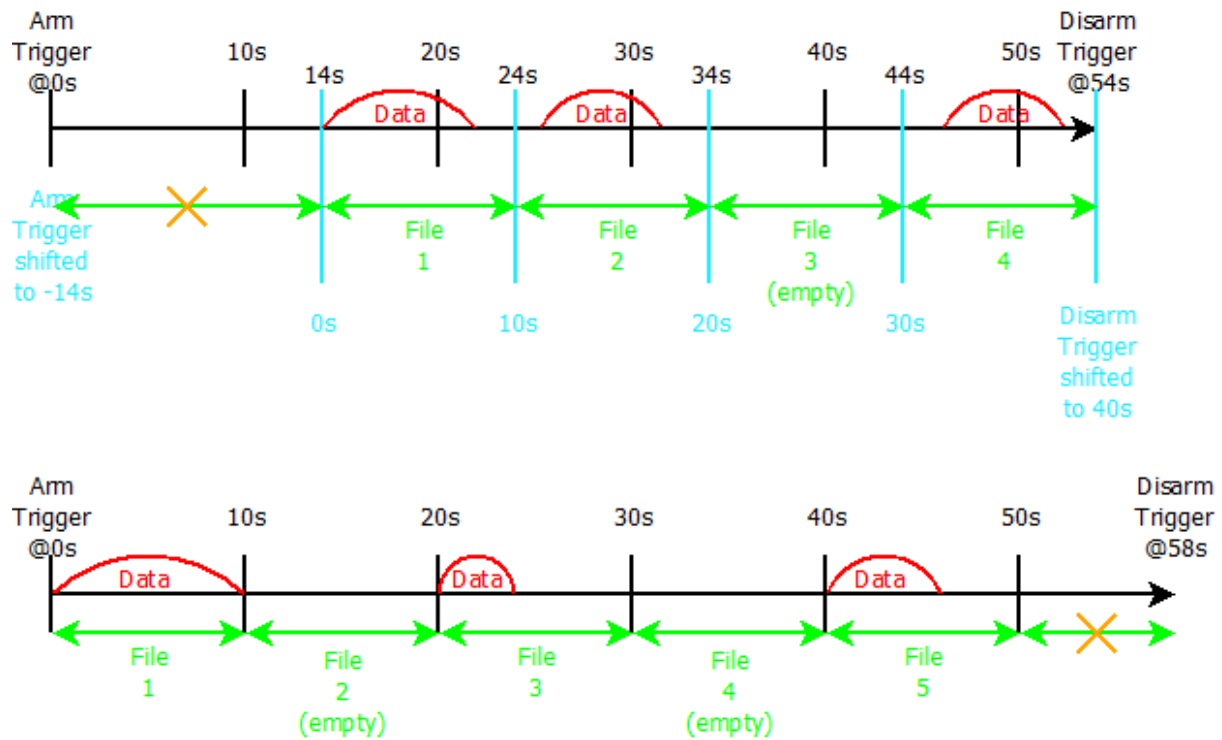

Fig. 5.7: Special case 2 for multi-file recording; split duration: 10s
- No data between the last occurring recording event and disarming the Trigger: If it takes a certain time between the last occurring recording event and disarming the Trigger, the time within will be rejected and no new data file will be created. The following Fig. 5.7 will illustrate that case. This is also the reason why the Split Stop/Start Marker is only created retroactively if a new recording event occurs and not at the exact time the split duration is exceeded.